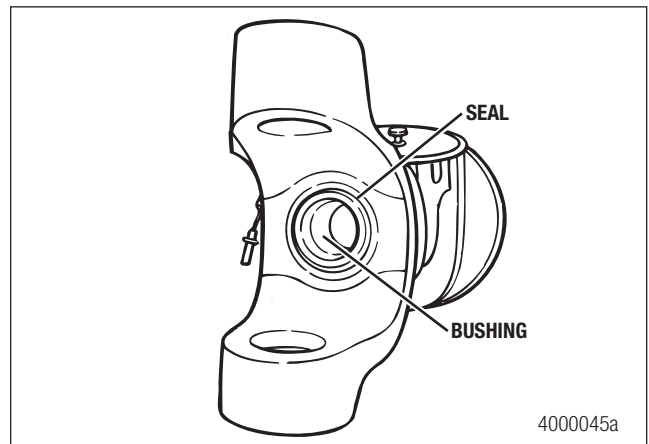

Figure 8.3
5. Remove and discard the inner axle shaft seal in the axle housing. The axle shaft seal should be replaced whenever the axle shaft is removed from the housing or if the seal is leaking oil. Figure 8.3.